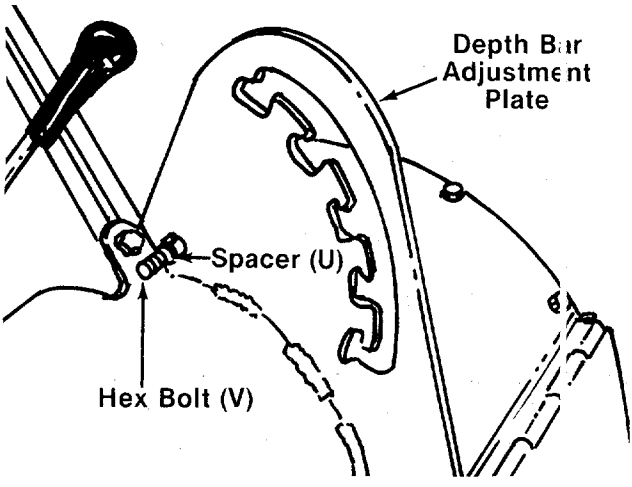

FIGURE 2.
2. Place hex bolt (V) through the hole in the depth bar adjustment plate as shown in figure 2. The head of the bolt must be to the right side of the tiller. Place smaller spacer (U) on the hex bolt.